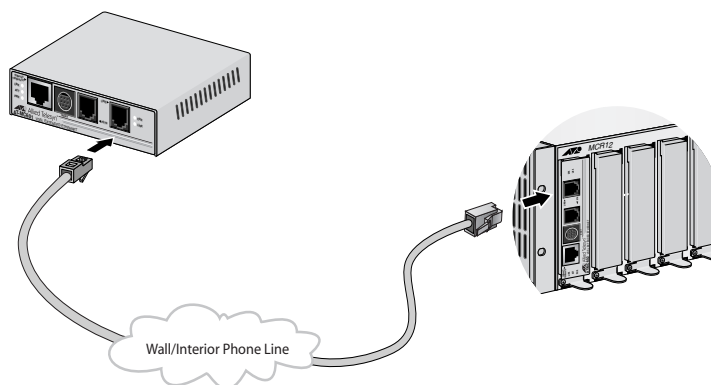

Figure 17 VDSL Line to Wall/Interior Phone Line
3. Next, connect a telephone line cable from the VDSL Line port to the wall/interior telephone line, as shown in Figure 17, so that the Provider unit can communicate with the Subscriber unit.